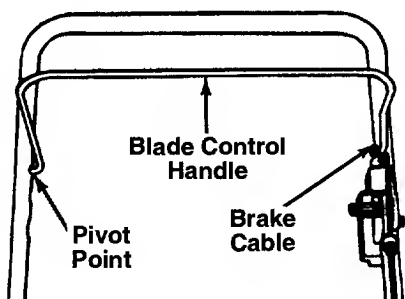

FIGURE 13.
**Blade Control**—Lubricate the pivot points on the blade control handle and the brake cable at least once a season with light oil. See figure 13. The blade control must operate freely in both directions.